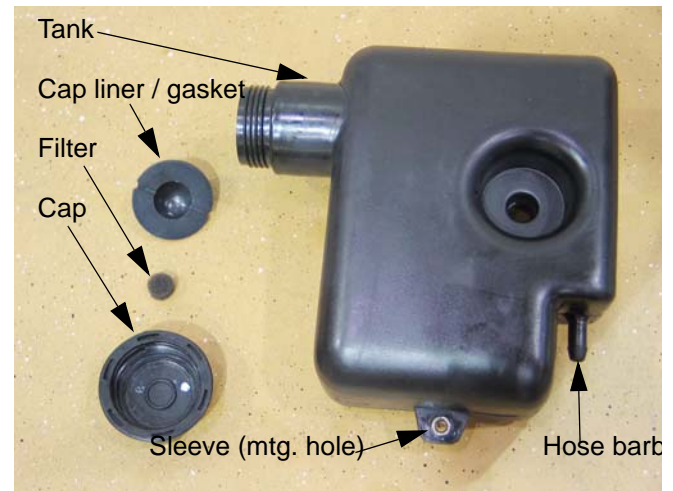

Figure 8.3
- 8.3. The tank is vented through the cap. See Figure 8.3.